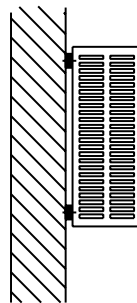

Figure 6: Wall Mounted Unit with Spacers
6. If there is any concern about the resistor enclosure conducting heat to its mounting surface, then space the unit off its mounting surface approximately 1/4" using flat washers or an extra nut on each mounting bolt. See **Figure 6**.